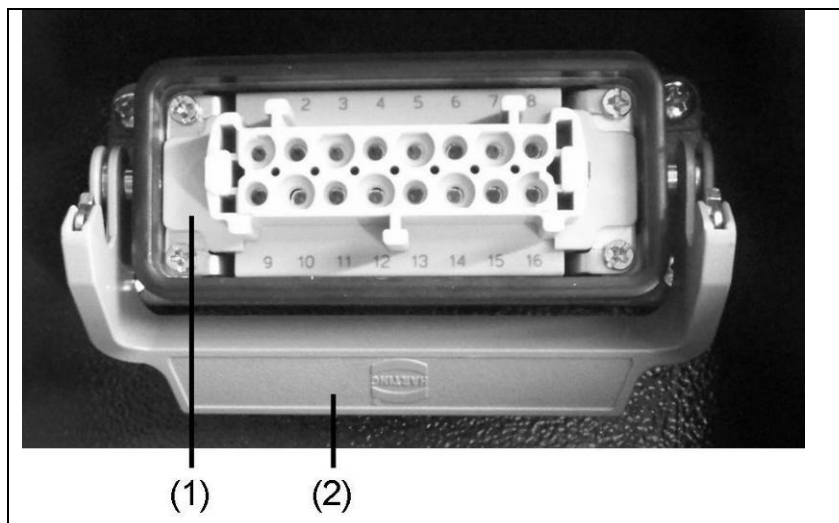

Fig. 5-4: Remote start device with Harting plug
1. Fold away any protective caps on the remote start socket after unlocking the clip (*Fig. 5-4(2)*).
2. Plug the remote start operating status / generator connecting cable into the remote start socket (*Fig. 5-4(1)*) and then use the clip (*Fig. 5-4(2)*) to secure it in place.